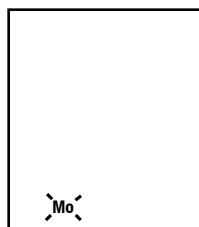

Figure 10
2. Press the Up or Down button to set the Day –the “Day” symbol flashes – See Fig. 10. Press the Up or Down button to set the day. You can now Advance to Next Menu or Exit Without Saving or Save and Exit.